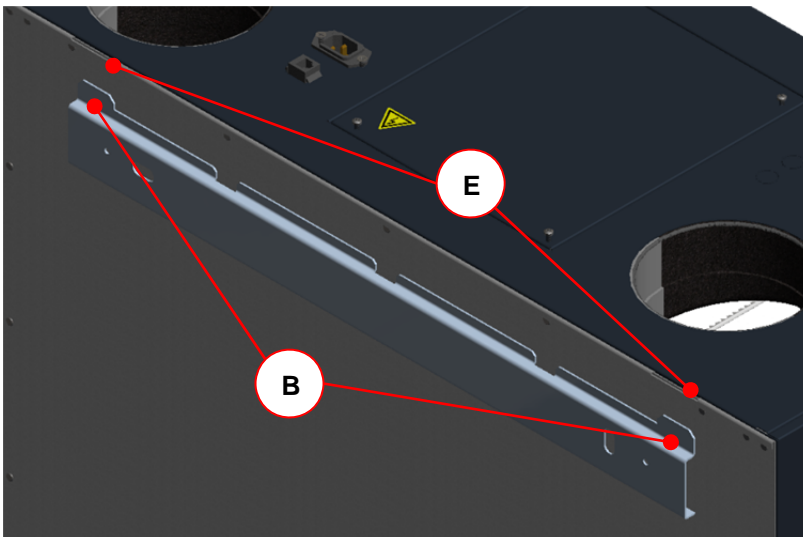

Fig 20: Hanging into the mounting sheet
6. Put the FOCUS on the mounting frame by hooking the tongues in the bottom slot openings of the rear panel. See Fig 20